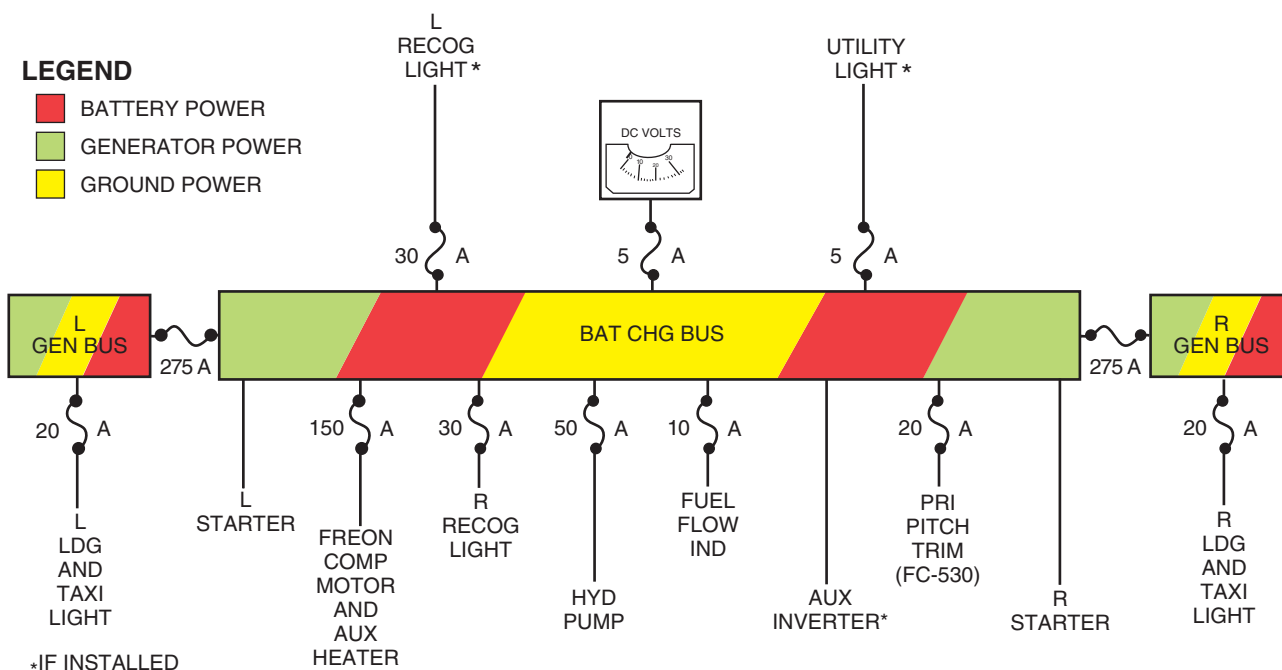
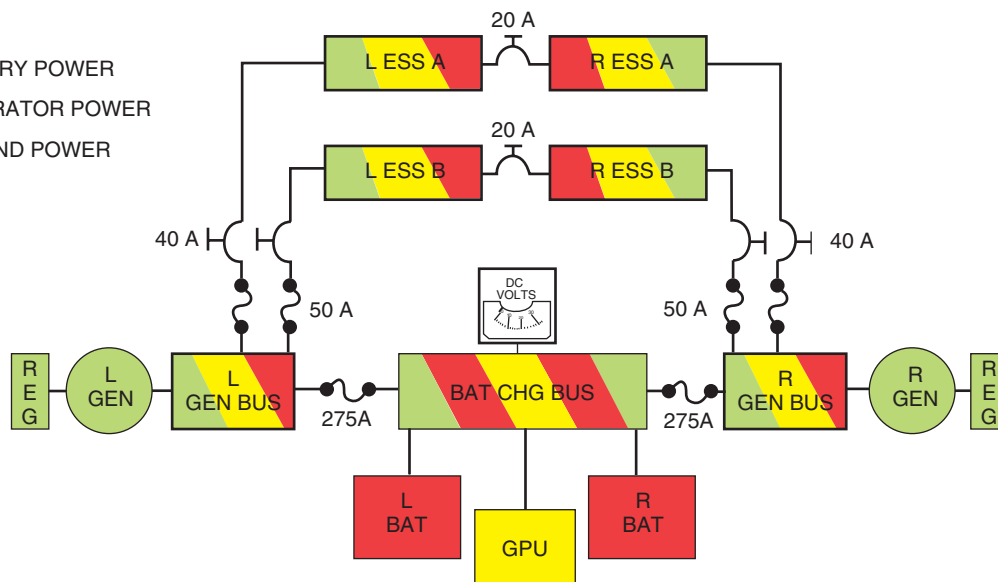

Figure 2-13. Equipment Powered by Battery Charging Bus and Generator Buses
Figure 2-17. Essential DC Bus Power—SNs 35-509 and Subsequent and 36-054 and Subsequent, and Prior Airplanes Incorporating AMK 85-1
On all airplanes, the following equipment is directly connected to the battery charging bus (Figure 2-13):
The left and right generator buses distribute power to the right and left main buses, the primary and secondary inverters, and the left and right power buses (Figures 2-14 and 2-21). On airplanes SNs 35-509 and subsequent, 36-054 and subsequent, and prior airplanes incorporating AMK 85-1, the generator buses also power the respective essential A and B buses (Figure 2-17). On all airplanes, the landing/taxi lights are connected to the respective generator bus (Figure 2-13). The generator buses can be powered by the batteries, a GPU, or either generator.
- The L or R IGN & START circuit breaker: (1) controls the respective starter relays and standby fuel pump relay and provides starting ignition power (through the thrust lever idle switch) when the GEN-OFF-START switch is in the START position; (2) provides power to the generator field when the switch is in the GEN position (Figure 2-13).